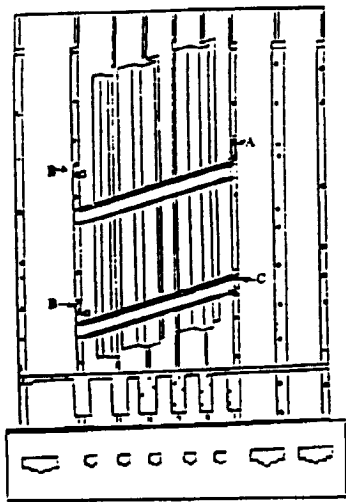

Figure 4
4. With the gate in its closed and latched position, remove the top gate hinge (See section "A", figure 4, pg. 9) by chiseling the heads from the two pop rivets that secure it. Discard the hinge. **CAUTION: Wear safety glasses.**
6. Remove top and bottom gate latches. (See section "B", figure 4, pg. 9) by chiseling the heads from the two pop rivets that secure it. Discard the latch.
7. Remove the bottom gate hinge (see section C, figure 4, pg. 9) by chiseling the heads from the two pop rivets that secure it.